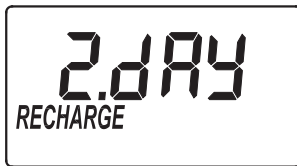

FIG. 28
1. If you completed the previous steps, the words “RECHARGE” and “day” should show in the display (See Figure 28). Otherwise, press the SELECT button several times until they do.